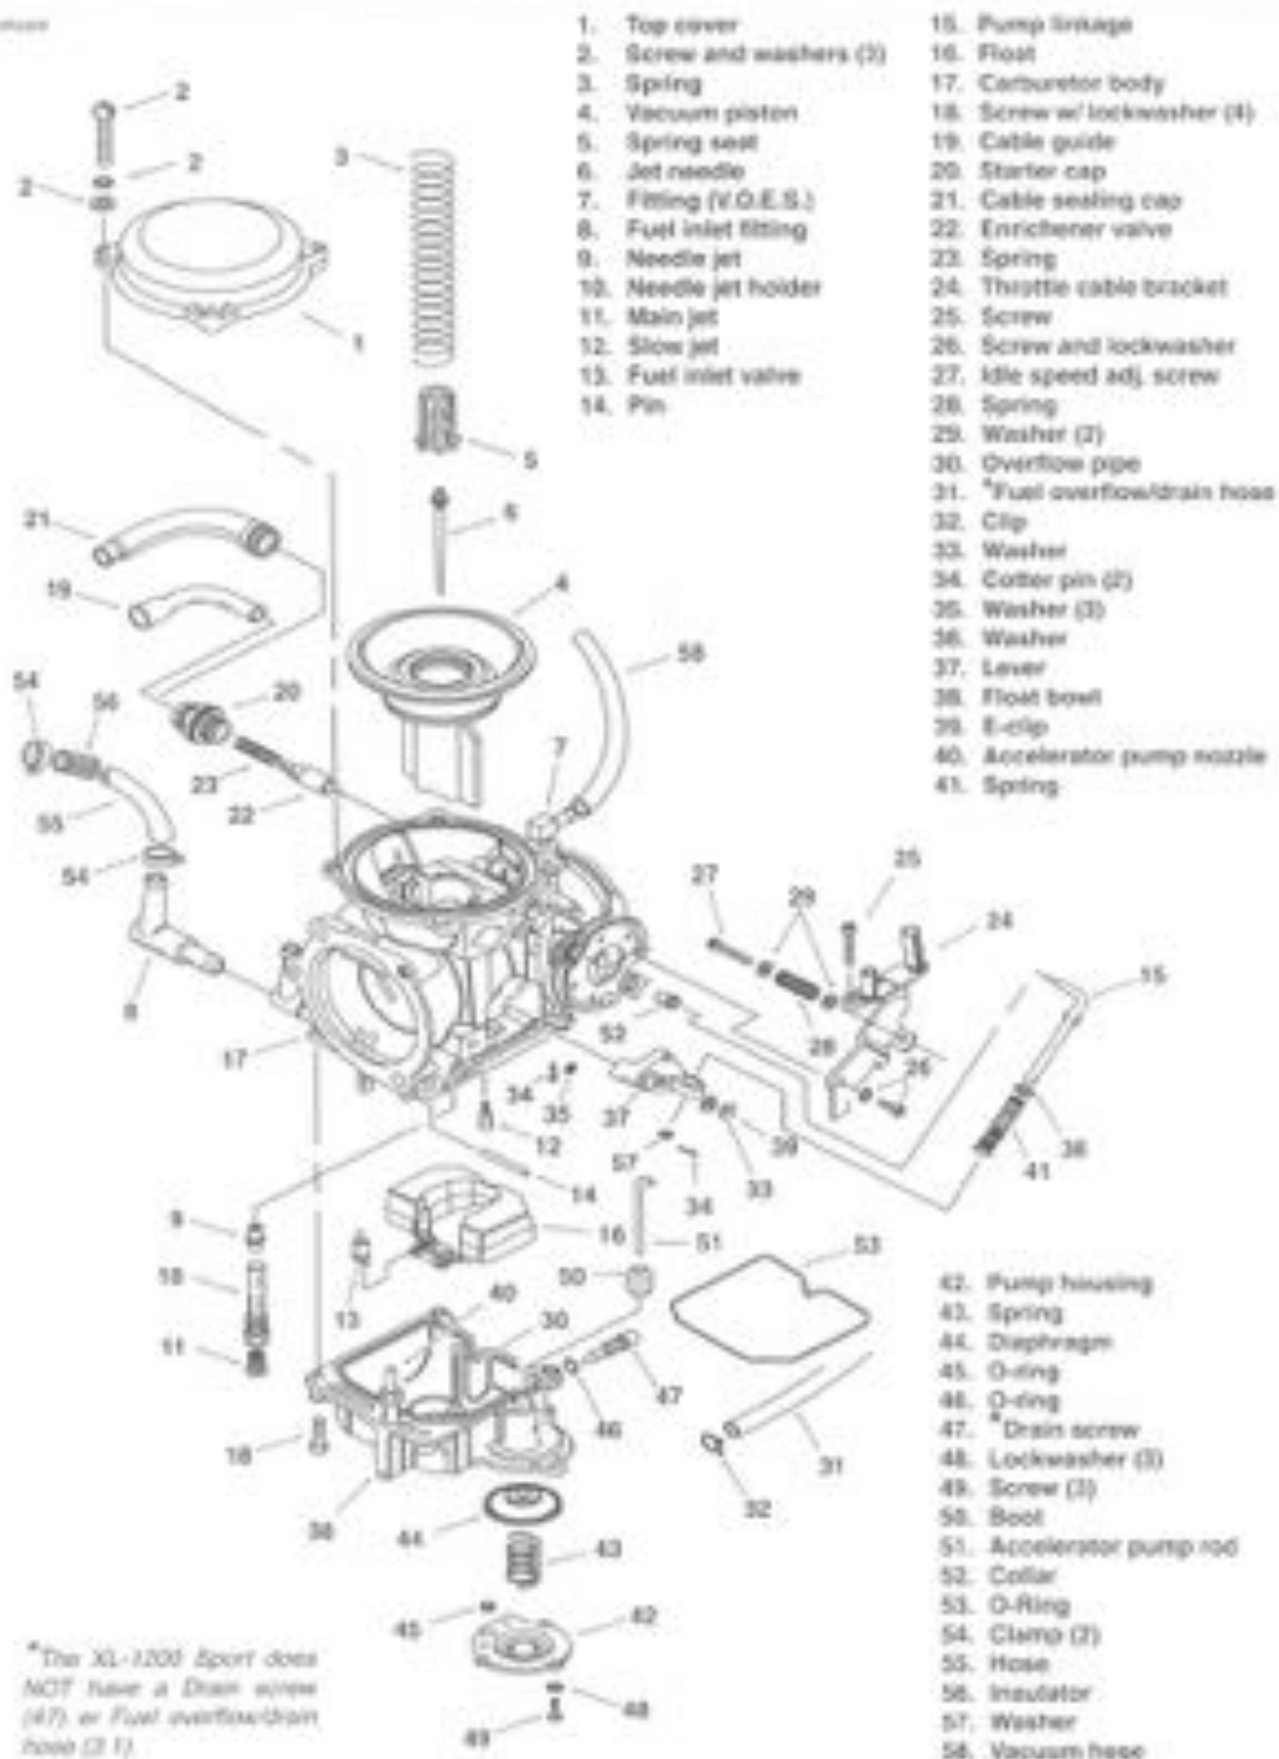

Figure 4-5. Constant-Velocity (CV) Carburetor
OPERATION CHECK – VACUUM PISTON (Figure 4-5)
4. See Figure 4-5. Disconnect fuel overflow/drain hose (31) from fuel overflow fitting (except XL-Sport). Disconnect vacuum hose (58) from V.G.E.S. fitting (7). Disconnect enricher valve assembly (19, 20, 21, 22, and 23).
DISASSEMBLY (Figure 4-5)
CLEANING, INSPECTION AND REPAIR (Figure 4-5)
ASSEMBLY (Figure 4-5)
10. See Figure 4-5. Connect fuel overflow/drain hose (21) to fuel overflow fitting. Connect vacuum hose (58) to V.O.E.S. fitting (7). Connect enricher valve assembly (19, 20, 21, 22, 23) to carburetor body.
Carburetor Fuel Overflow / Drain Hose Routing (Figure 4-5)